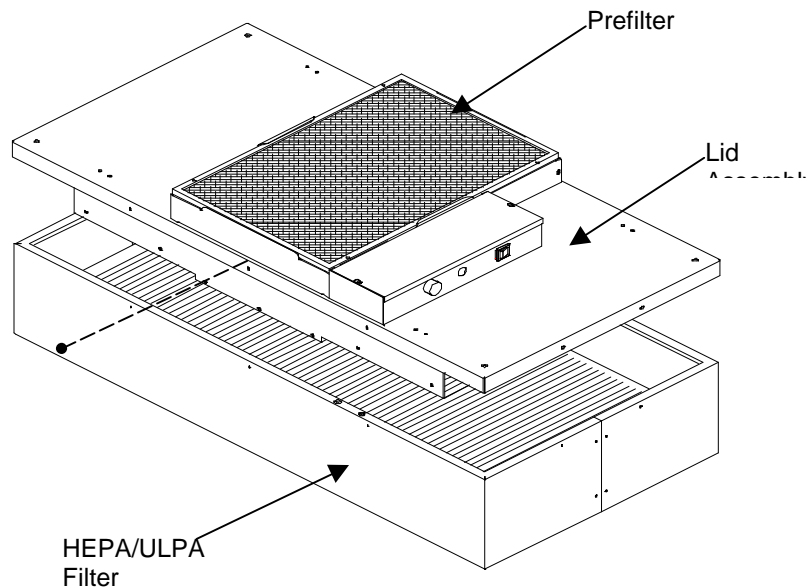

Figure 10 - Filter Replacement
- c. Loosen the electrical box cover screws (2), and slide/lift off cover.
- g. Remove the six screws to free the venturi ring and remove the motor/blower assembly from the lid assembly. If using a power driver, set the unit to a low torque setting to avoid stripping the sheet metal screws. (See Figure 10)